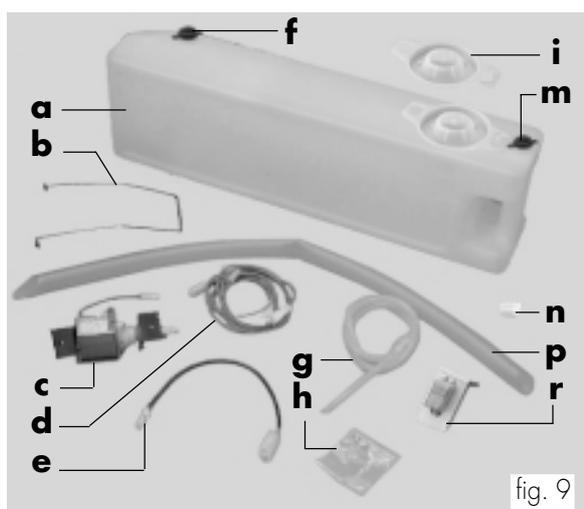
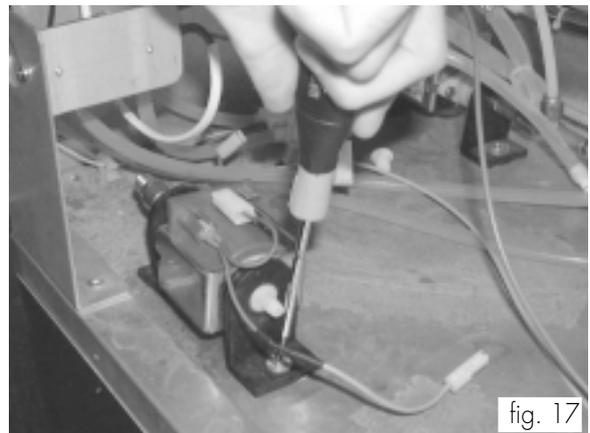
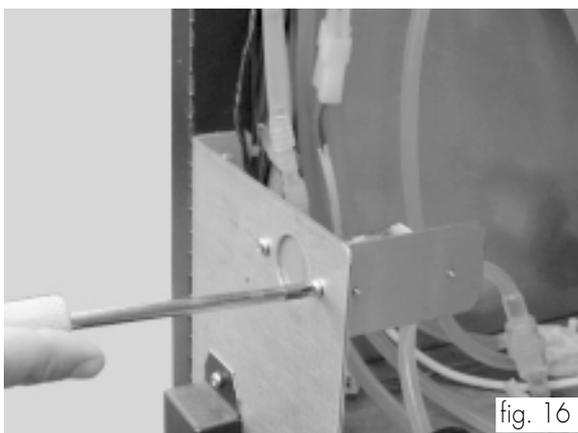

fig. 9
fig. 17
fig. 16
Assembly kit (fig. 9)
- Tighten the pump by means of the two screws and two washers 4,3x16 (ref. **h**, fig. 9) to the bottom (fig. 17).
- Tighten the relay and support plate (ref. **r**, fig. 9) by using the screws previously taken from the inlet solenoid valve (fig. 16)
- Tighten the spring (ref. **b**, fig. 9) in the position shown in fig. 29 by using the two screws and two washers 4,3x12 (ref. **h**, fig. 9).
- Replace the pipe fastened to the drain channel (fig. 21) with the drain tube (ref. **p**, fig.9). Remove the cap (ref. **m**, fig. 9) from the tank. Insert the other end of the pipe in the discharge fluid tank (fig. 22). Make sure that the other tank holes are properly capped.
- Fit the cap on the tank. Place the tank inside the V.M. (fig. 24) by sliding the pipe inside the tank itself. Close the hole (ref. **v**, fig. 23) by means of the cap (ref. **n**, fig. 9).
Before removing the tank to empty it, close the pipe hole using the relevant cap (ref. **m**, fig. 9). This will help preventing any liquid spillage due to the surge effect.